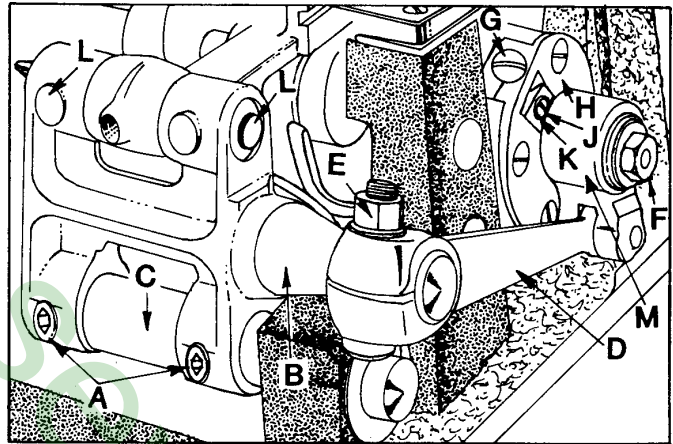

Fig 11
Right to left adjustment can be made by loosening screw (A, Fig. 11) and slightly move feed rocker (B) on feed rocker shaft (C) as required, then retighten screws. Check to ensure that feed rocker arm (D) does not bind after adjustment.
Forward or rearward centering of the feed dog can be accomplished by loosening nut (E, Fig. 11). Move feed rocker (B) as required and retighten nut.
CAUTION: Feed crank link sub-assembly (M, Fig. 11) **MUST** have shake with **NO** binds at a 360° rotation of the handwheel. Nut (F) should be torqued at 55 in. lbs. (63 cm/kg).
Set the stitch to required length. This is accomplished by loosening locknut (F, Fig. 11) on the end of the stitch regulating stud 1/2 turn (it has a left hand thread). Turn stitch adjusting screw (G) located under the left end of the cloth plate, in the end of main shaft (H), which is marked with "L" and "S". Turning the screw clockwise shortens the stitch (moves stitch regulating stud toward the "S") and turning it in a counterclockwise direction lengthens the stitch (moves stitch regulating stud toward the "L"). Retighten locknut securely. To prevent destructive damage to the feed drive bearing, key screw (J) must engage the "U" shaped key slot in ferrule (K).
Needle bearings in the feed rocker at locations (L, Fig. 11) may require repacking after years of service. Bearings should be thoroughly cleaned and repacked with Union Special Corporation grease No. 28604P.